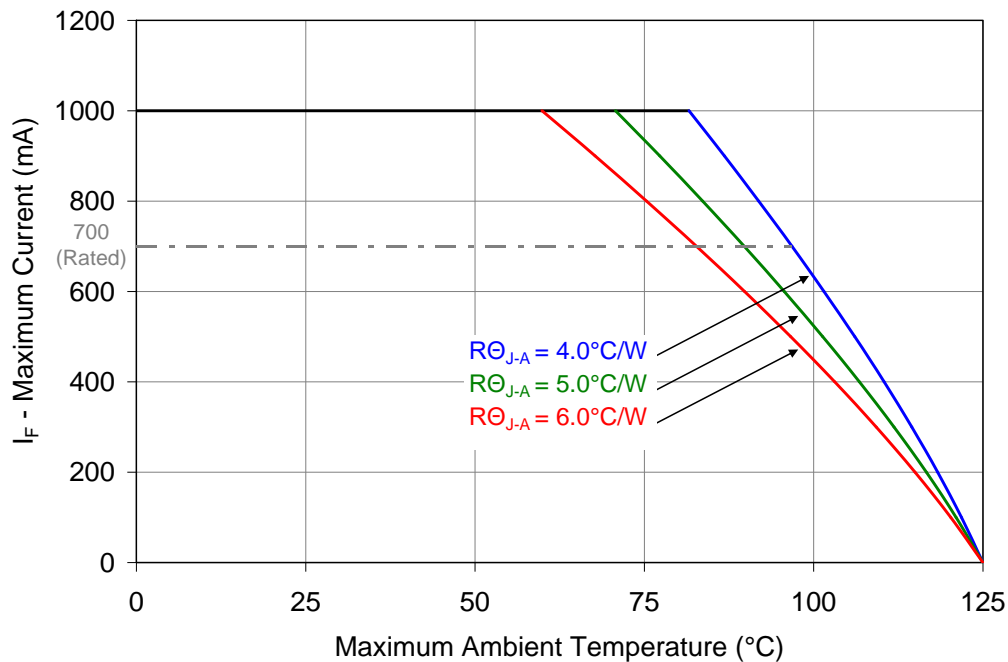

Figure 10: Maximum forward current vs. ambient temperature based on $T_{j(\text{MAX})} = 125^\circ\text{C}$.
- Maximum DC forward current (per die) is determined by the overall thermal resistance and ambient temperature. Follow the curves in Figure 10 for current derating.
Notes for Figure 10: